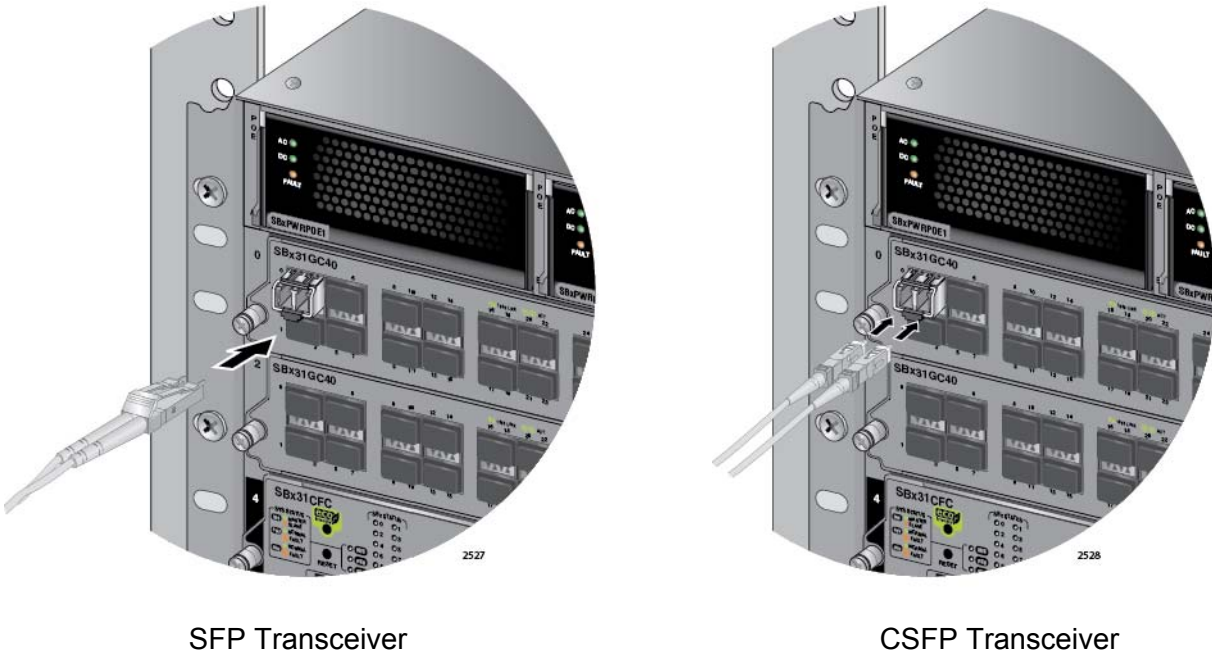

Figure 94. Attaching a Fiber Optic Cable
- Connect the fiber optic cables to the port on the transceiver, as shown in Figure 94. The connectors should snap into the ports. If you are connecting only one cable to a CSFP transceiver, you may connect it to either port.